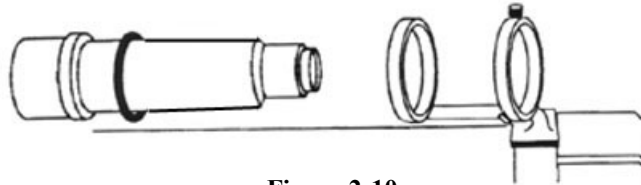

Figure 2-10
- Place the mounting bracket over the two holes of the rear cell as shown in the figure 2-10.